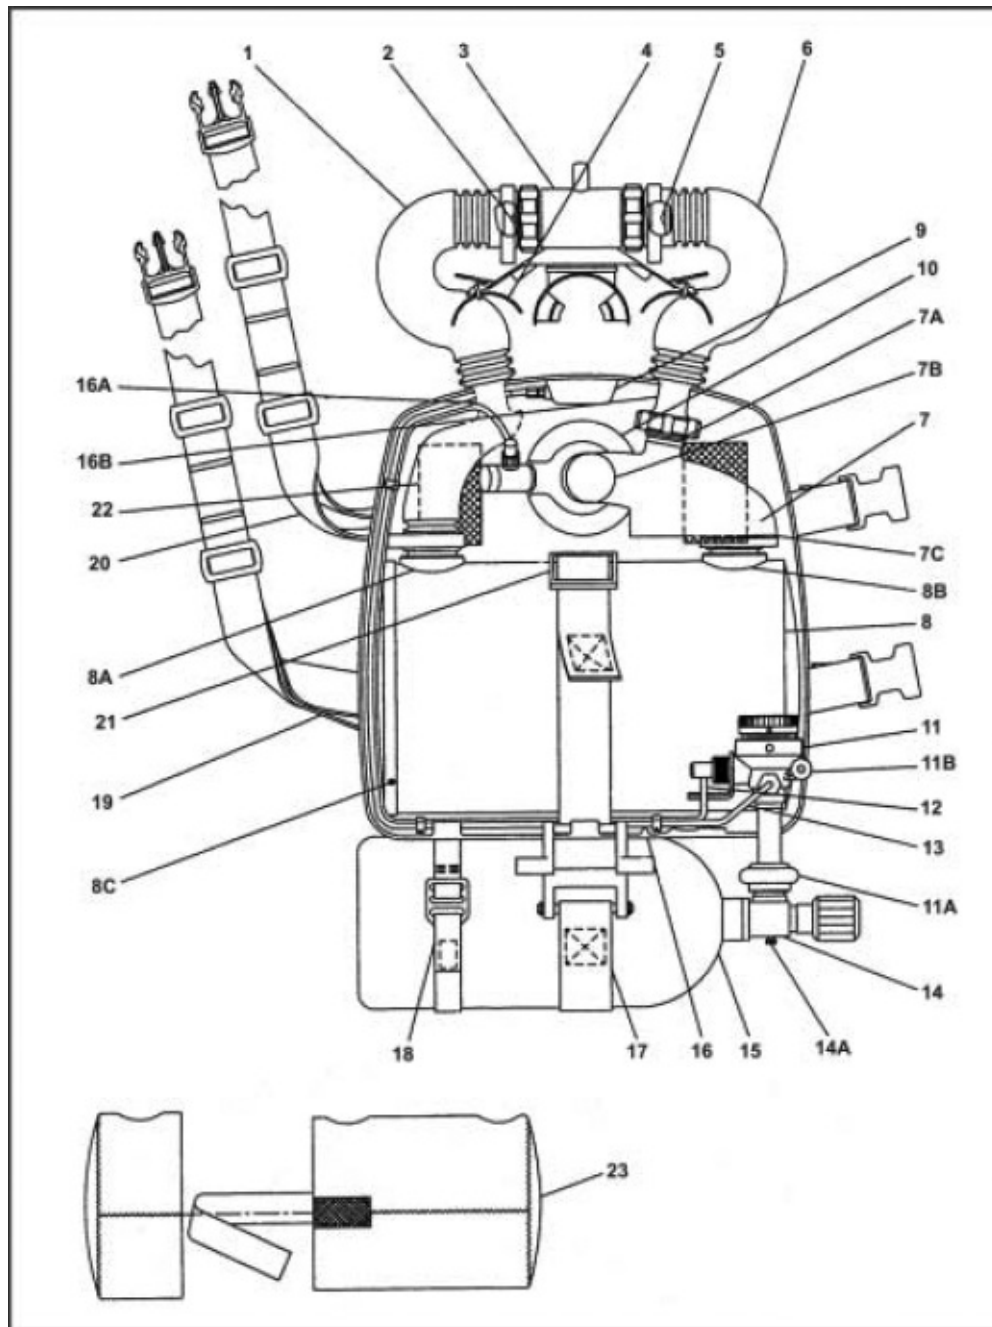

Figure 11-2. MK 25 UBA Component locations (As Worn)
11-7. Table 11-1 and Figure 11-2 depict the functional description of the MK 25 UBA. From the oxygen cylinder (15), highpressure oxygen passes through the cylinder valve (14) to the reducer (11), where the highpressure gas is reduced to an average intermediate working pressure of 3.3 to 3.7 bar (47.8 to 53.6 psig) over ambient pressure. The gas is then piped through the low (intermediate) pressure line (12) to the demand valve assembly (10), which is adjustable for an actuation pressure of 8.5 ± 1.5 inches of water (0.31 ± 0.05 psig). Highpressure